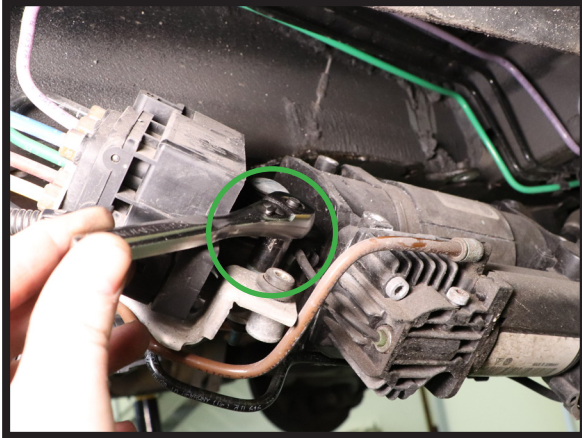

FIGURE 6
4. REMOVE THREE (3) BOLTS TO SEPARATE THE VALVE BLOCK MOUNT FROM THE BLOCK/COMPRESSOR ASSEMBLY. (FIGURES 6, 7, 8, 9)